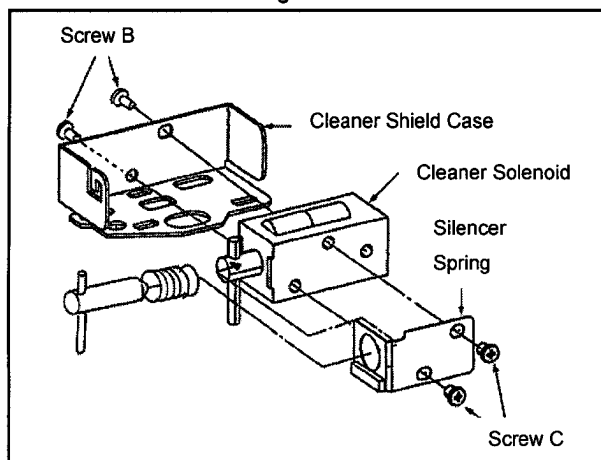

Fig. 4-9-2
4. Unscrew the 2 screws (C) as shown in Fig. 4-9-2 and remove the Silencer Spring from the Cleaner Solenoid Unit.